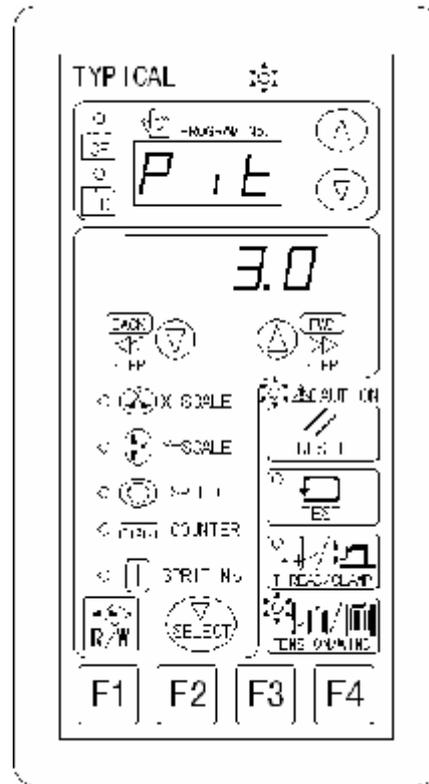

Fig. 6-9
3. If you want to set up stitch length (parameter identification [PIT]) and processing method of remainder needle (parameter identification [MOD]), then simultaneously press  and  keys, to enter drafting parameter set-up interface, as shown in Fig. 6-9. Perform parameter selection by